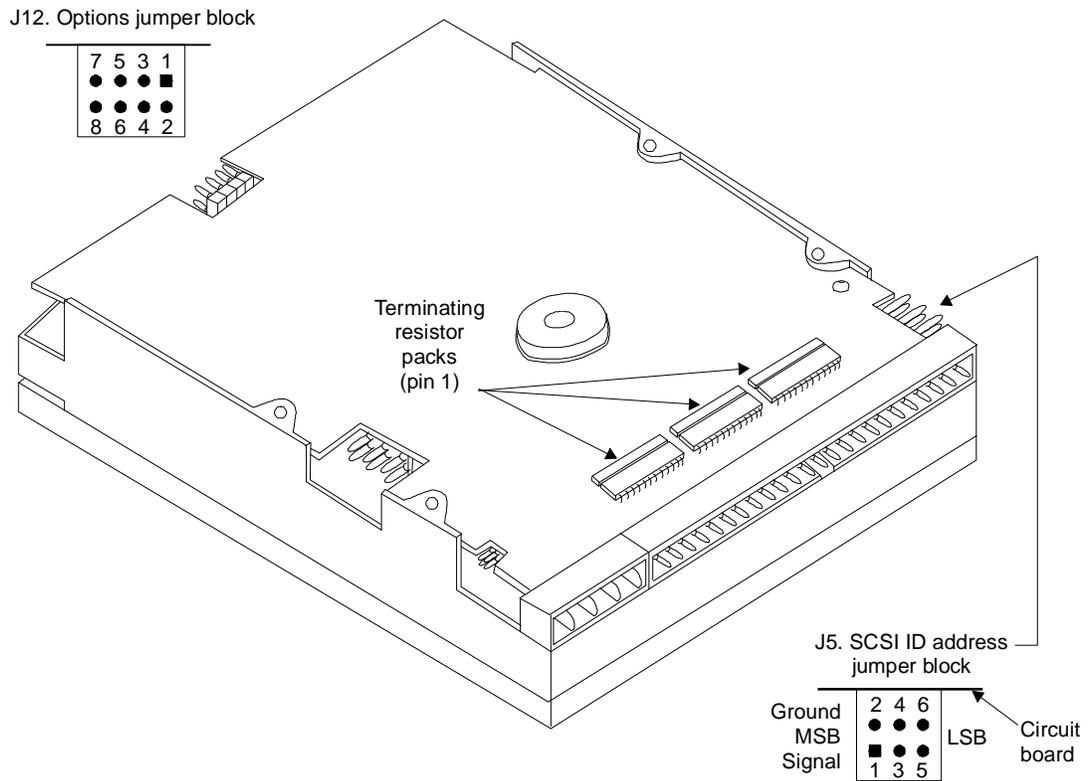

Figure 4-6. Location of Seagate ST3550N Jumper Fields and Bus Terminators.
The Seagate drive is a hard disk drive with approximately 456 megabytes that provides up to 58 hours of voice storage when used on the DEFINITY AUDIX System. It supports the SCSI interface. Figure 4-6, shows the location of the Seagate ST3550N jumper fields and bus terminators.
- Interface terminator packs should not be installed. See Figure 4-6 for the location of these terminator packs. Verify that they are not present. Normally no action is required since all drives should be shipped without these terminator packs.
- Bus Parity - When a jumper is installed on pins 1-2 of this jumper block, the drive will check the SCSI bus parity. The drive will operate in AUDIX with or without this jumper. However, it is recommended that this jumper be installed. (see Figure 4-6).
- These three jumpers are identified in Figure 4-6.